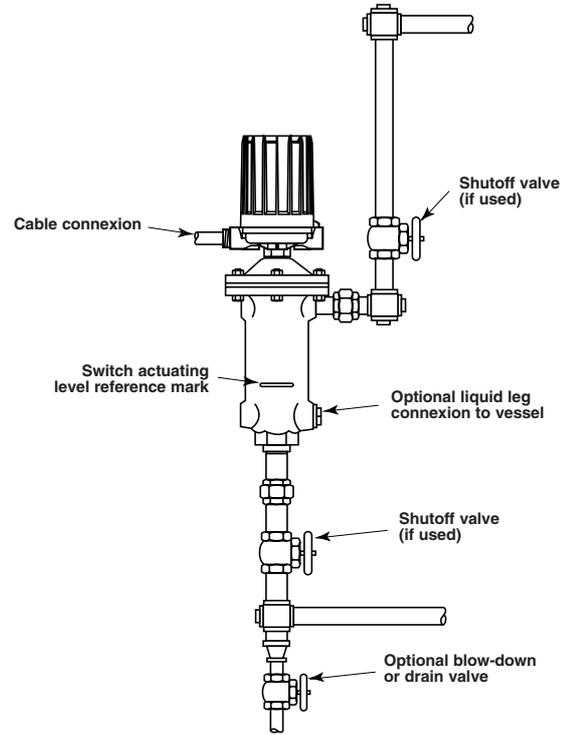

Figure 3
Figure 3 shows a typical piping installation of a Magnetrol float cage control to a vessel or boiler. Level decals on control identify the actuation levels for a unit with three switches at minimum specific gravity. Refer to the Actuation Level charts for the actuation levels for a unit with one switch at different minimum specific gravities.
6. If switch magnet assembly swings freely and mechanism still fails to actuate, check installation of control to be certain it is within the specified three (3°) degrees of vertical (Use spirit level on side of enclosing tube in two places, 90° apart. Refer to **Figure 3** on page 4).